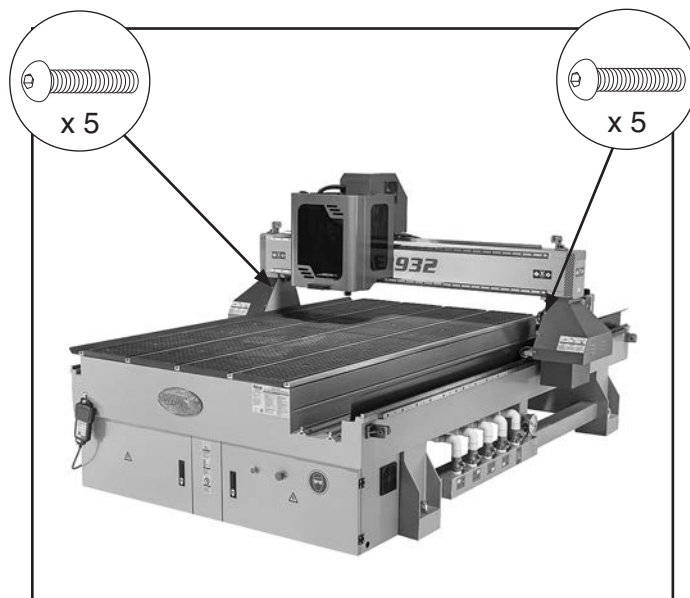

Figure 22. Gantry column covers installed on gantry columns.
10. Install gantry column covers on gantry columns using (5) M6-1 x 8 button head cap screws pre-installed on each gantry column (see **Figure 22**).